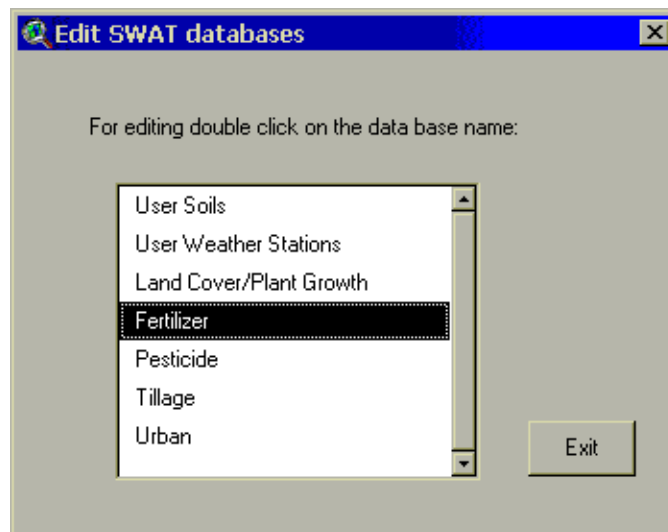

Figure 14.1
2. A dialog box will appear with a list of the databases (Figure 14.1).